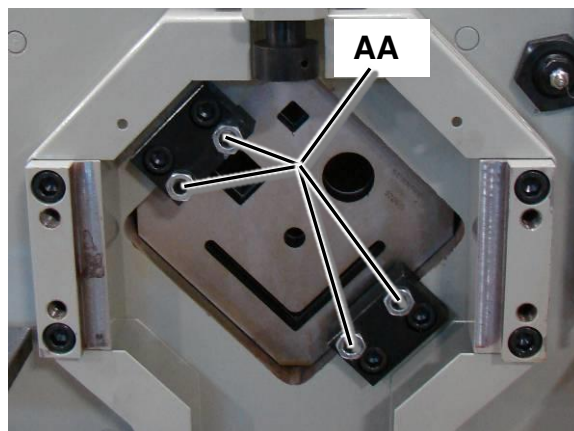

figure 10
2. Remove the hold down plate (plate shown removed in fig. 10)